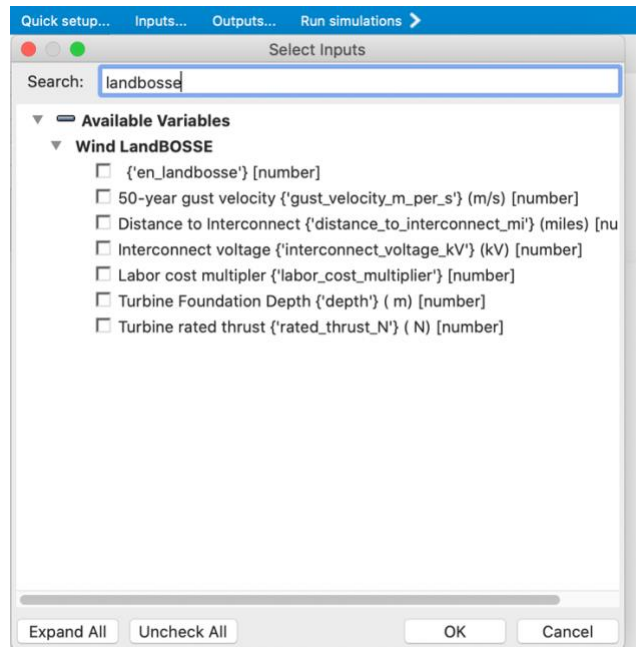
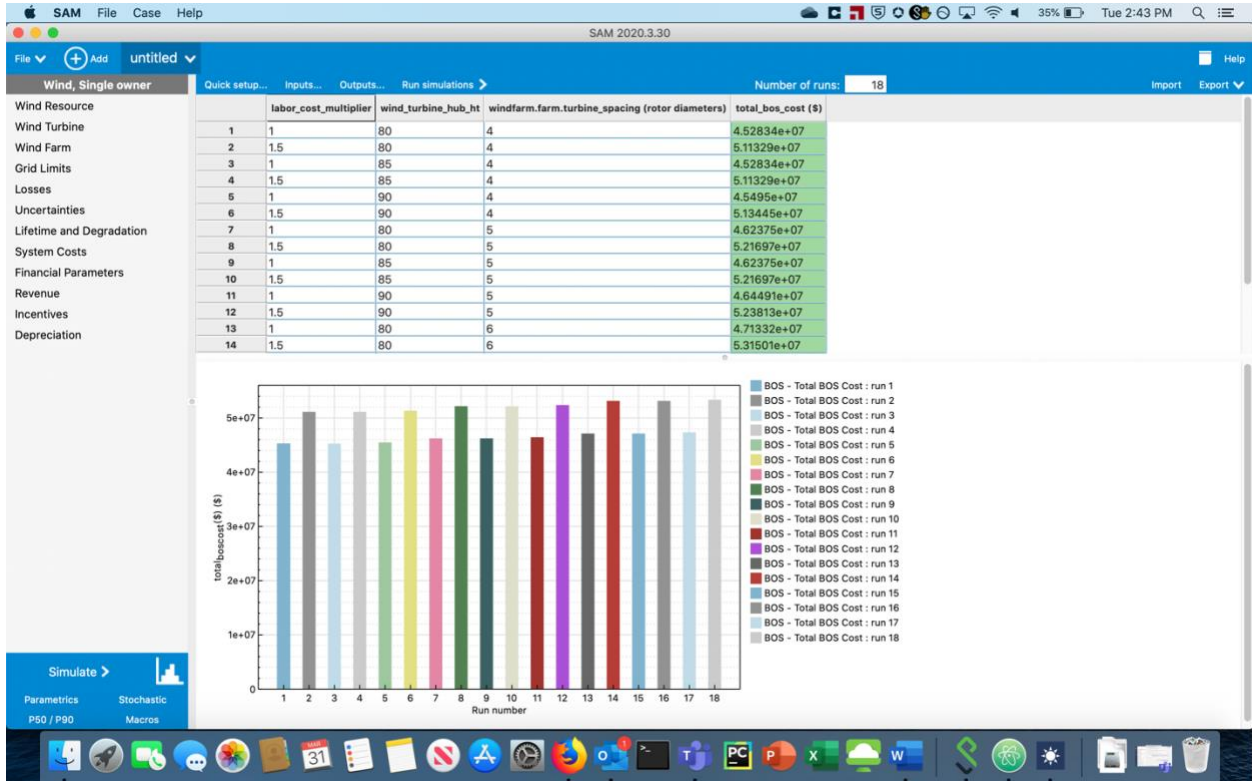

Figure 6: LandBOSSE inputs for running parametrics in SAM
Figure 7: Sample parametric run in SAM using LandBOSSE inputs
3. Click on the *Quick Setup* option (Figure 6) and search for “LandBOSSE” to filter LandBOSSE inputs you would like to run parametrics for.
- Once you have selected the search parameters for your parametric analyses, and the relevant output (total BOS cost for instance), click on *Run Simulation* (Figure 6). Figure 7 shows a sample output from a successful parametric analysis of total project BOS cost as a function of *labor_cost_multiplier*, *wind_turbine_hub_ht*, and *turbine_spacing* which are all LandBOSSE inputs.